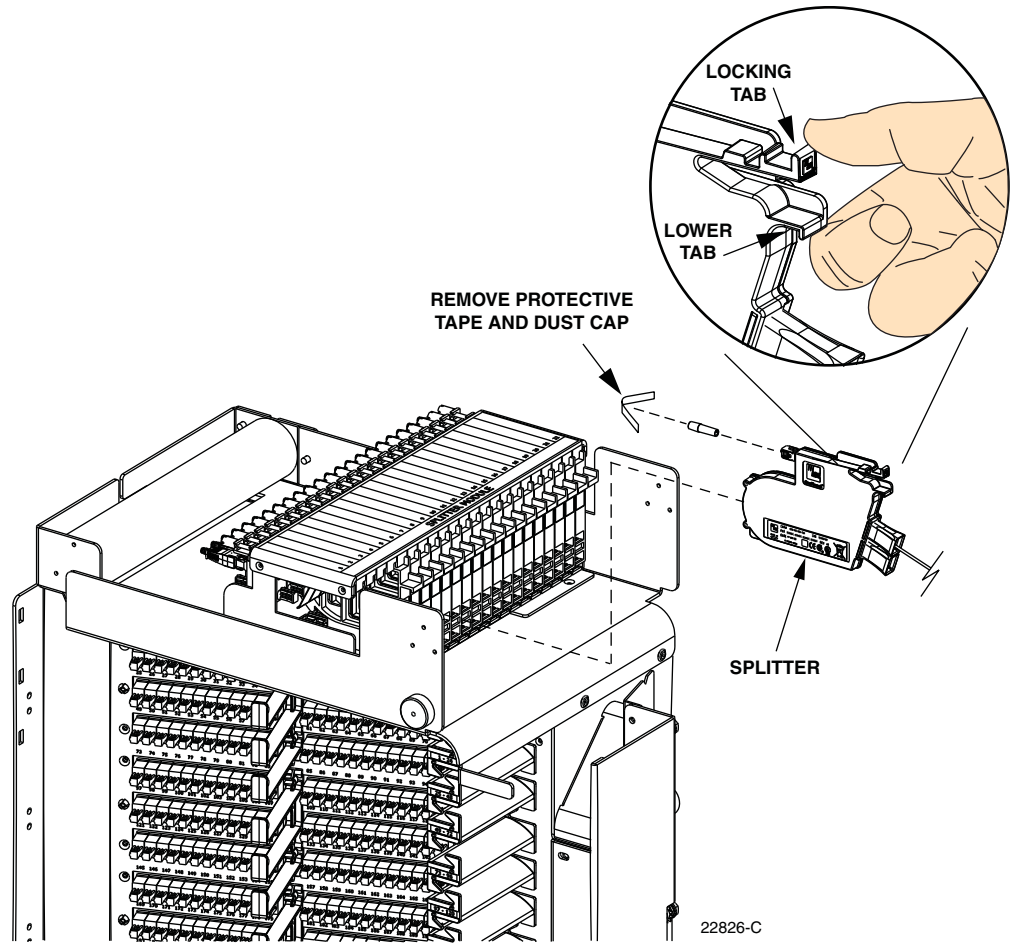

Figure 43. Splitter Installation
7. Remove the protective tape and dust cap from the splitter connector as shown in Figure 43.
8. Grasp the splitter using thumb and forefinger (Figure 43) and gently squeeze the locking tab against the lower tab